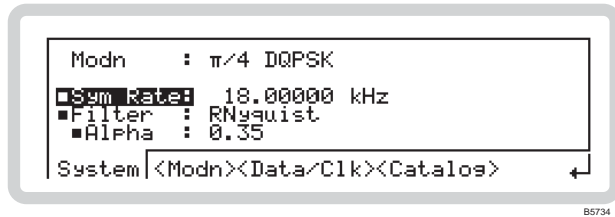
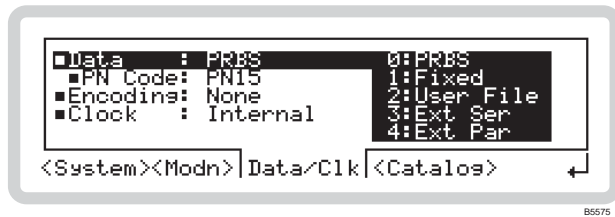

Fig. 3-40 Generic modulation
Fig. 3-42 Data and clock source selection
- 2 Press **SIG GEN** to show the main screen, and touch the **IQ** soft box to select the function. Touch **Generic** and press **↓** to view the Generic modulation menu (Fig. 3-40).
From the generic modulation screen of Fig. 3-40, touch <Modn> or press <TAB> to display the modulation selection screen (Fig. 3-41).
From the generic modulation screen of Fig. 3-40, touch <Data/Clk> or press **<TAB>** to display the data and clock source screen (Fig. 3-42).